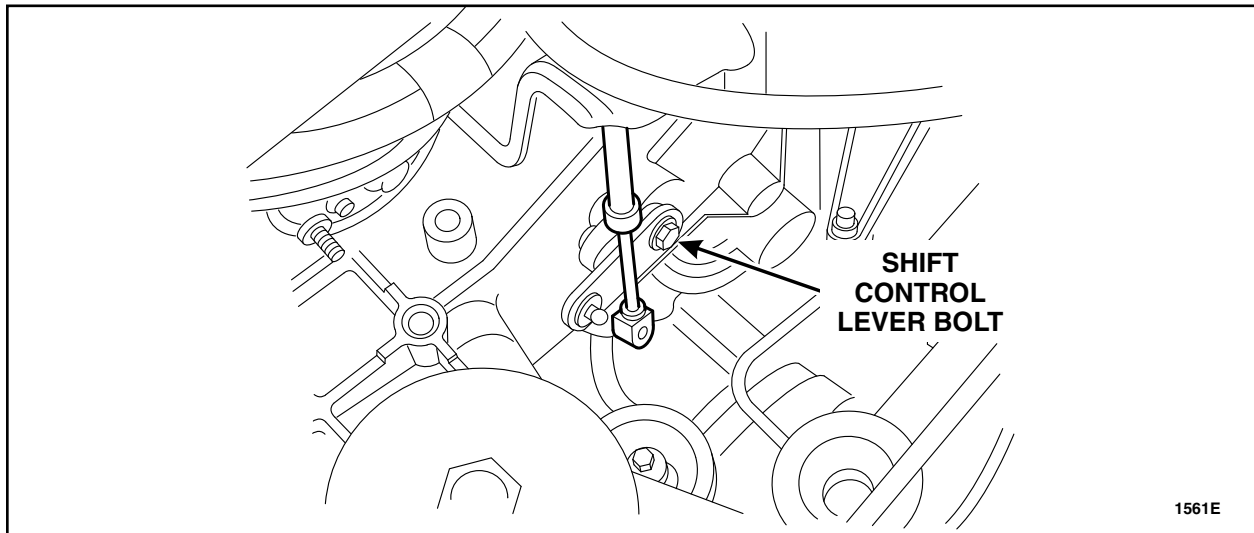

FIGURE 3
4. Tighten the shift control lever bolt to 27 Nm (20 lb-ft). See Figure 3.